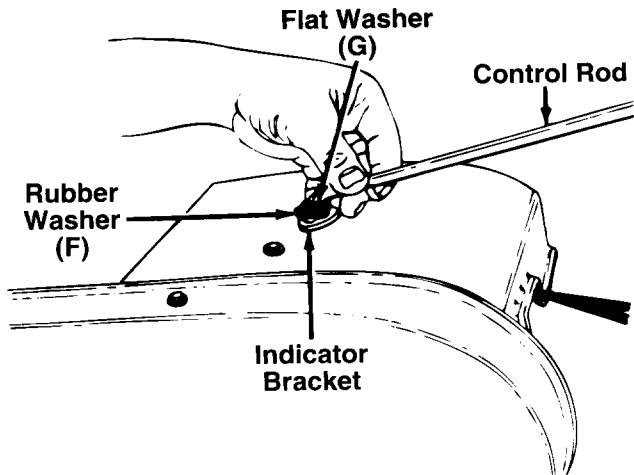

FIGURE 12.
20. Place flat washer (G), then rubber washer (F) over the hooked end of control rod. Insert end of control rod into the indicator bracket on top of the shift cover, and secure with hairpin clip (E). See figure 12.